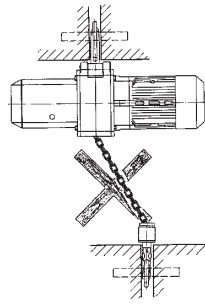

Fig. 5
- Avoid side pull, i. e. side load on either housing or bottom block (fig. 5).